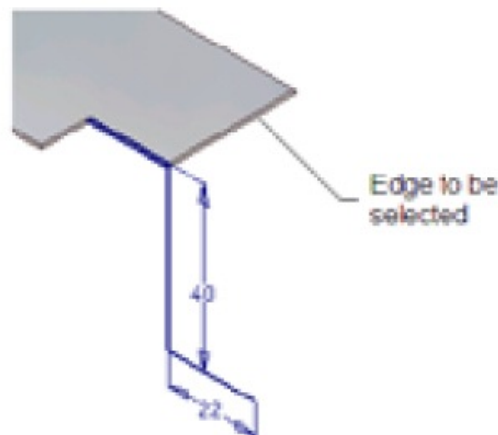

Figure 15-96 Sketch of the contour flange
2. Draw the sketch of the contour flange, as shown in Figure 15-96.
5. Select the edge on the right of the top face to create the flange, refer to Figure 15-96.